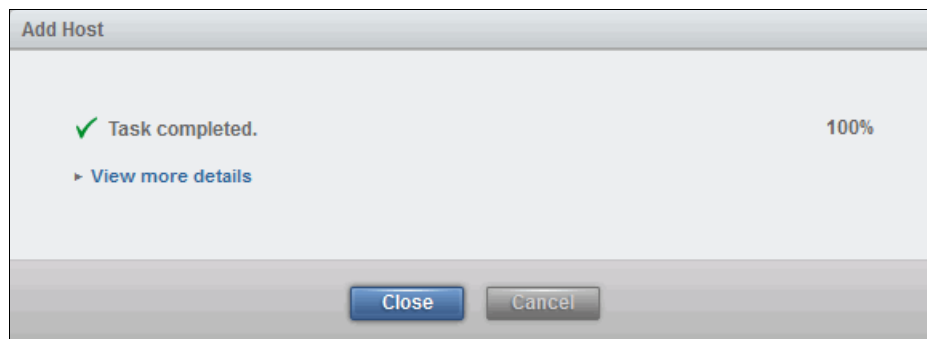

Figure 4-37 Completion of the Add Host wizard
7. Click **Add Host** and the wizard completes, as shown in Figure 4-37.